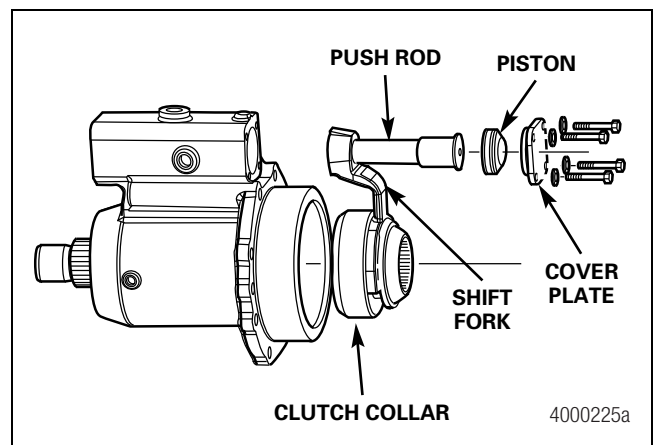

Figure 7.11
- I. Apply 20-30 lbs (9-14 kg) of pressure to insert the piston into the housing. Figure 7.11.